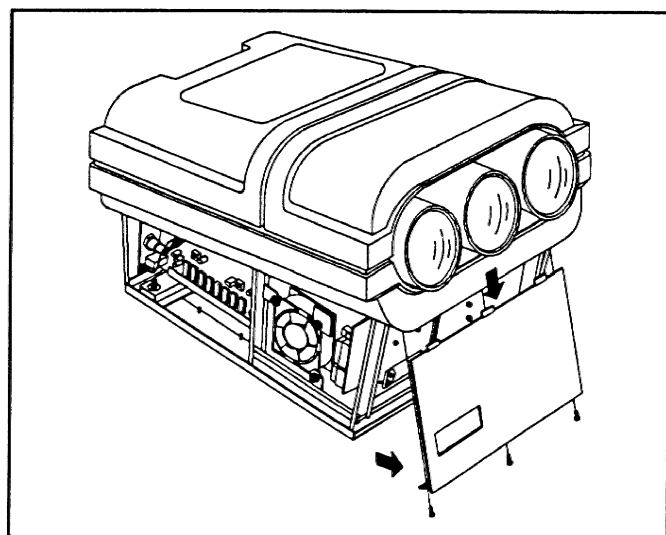

FIGURE 5-5. Lower Front Panel Removal
- b) Remove the 3 hex head screws securing the front panel to the projector frame as shown in Figure 5-5. Pull the front panel down and away from the projector body.